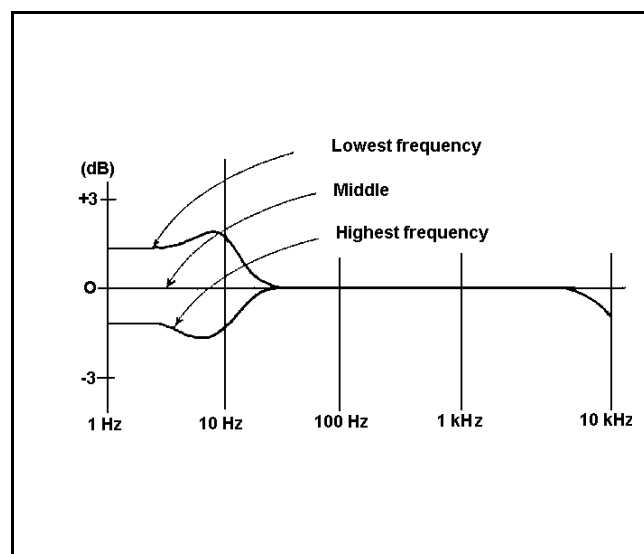

Figure 9 - Typical Frequency Characteristics
4. Change the carrier frequency to the highest channel of the band and then to the lowest channel. Check the modulation flatness each time (refer to Figure 9).